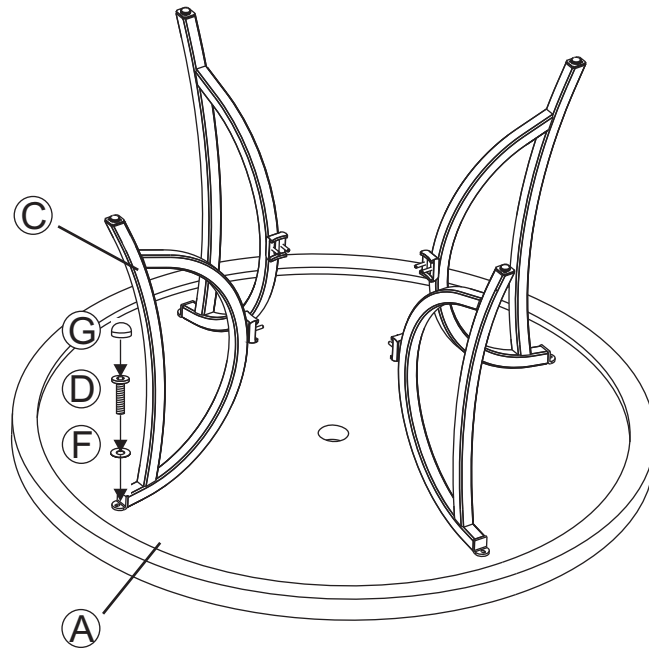

Figure 1
- 1 Place the table top upside down on a flat, non-abrasive surface. Attach a table leg to the table top by using the bolts and washers as shown in the **Figure 1**. Guide the bolts through the holes in the table leg, into the pre-drilled holes in the table top. **Hand tighten 2-3 turns only**. Repeat for the other three legs.